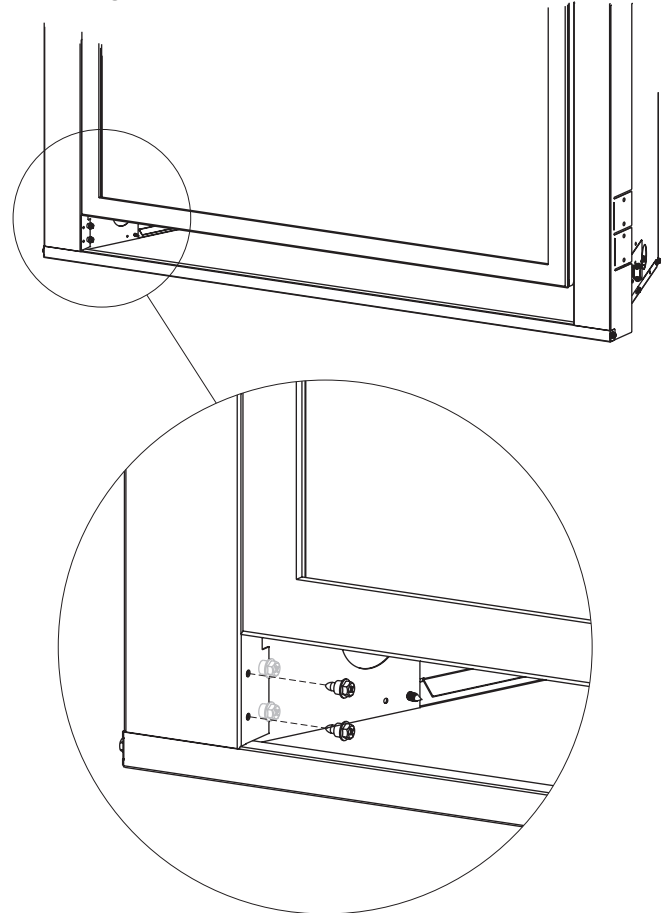

Figure 2
2. Move the four screws (two each side) to the forward holes. **See Figure 2.**